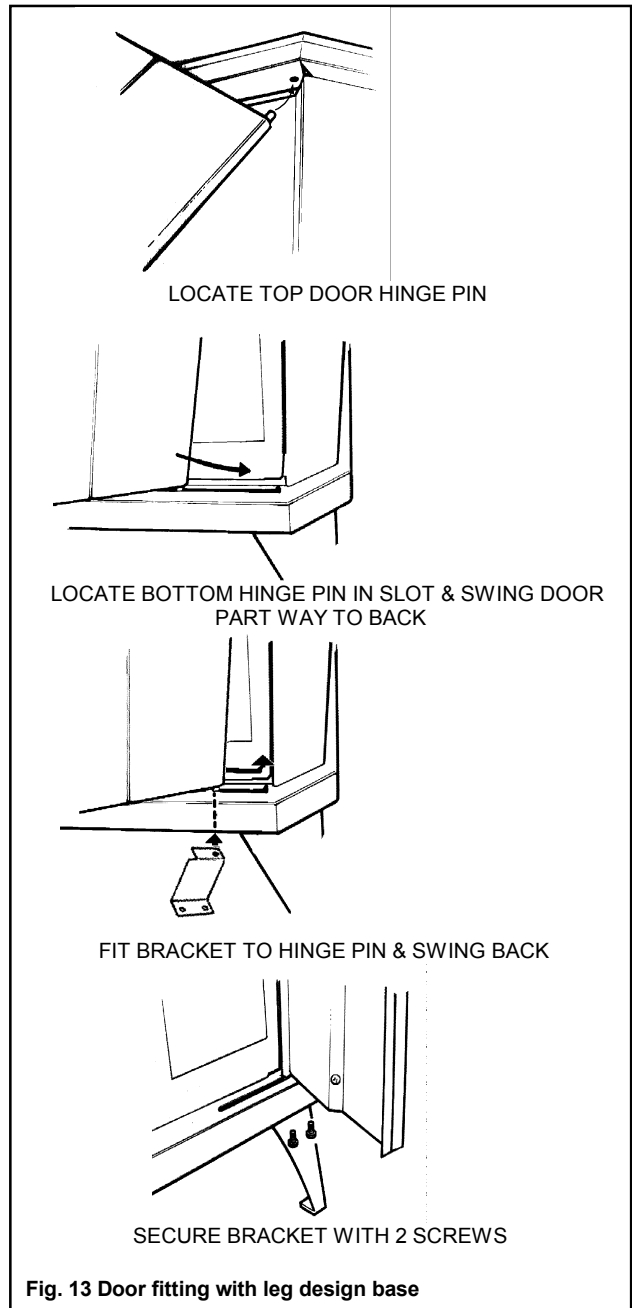

Fig. 13 Door fitting with leg design base
- 9.2.9.1 Locate the hinge pin at top of the door into the hole at the top of the door aperture (see figure 13).
- 9.2.9.2 Locate the hinge pin at bottom of the door into the slot in the base. Swing the bottom of the door part way to the back. A new door retaining bracket is supplied with the leg and facia kit. Hold this bracket under the bottom of the base side. Position it with the two holes at the bottom and locate the single hole over the bottom door hinge pin (see figure 13).
- 9.2.9.3 While keeping the bracket located to the hinge pin, swing the door and bracket fully backwards. Align the two holes in the bracket with the two holes in the base side and fix with the two tapping screws provided (see figure 13).